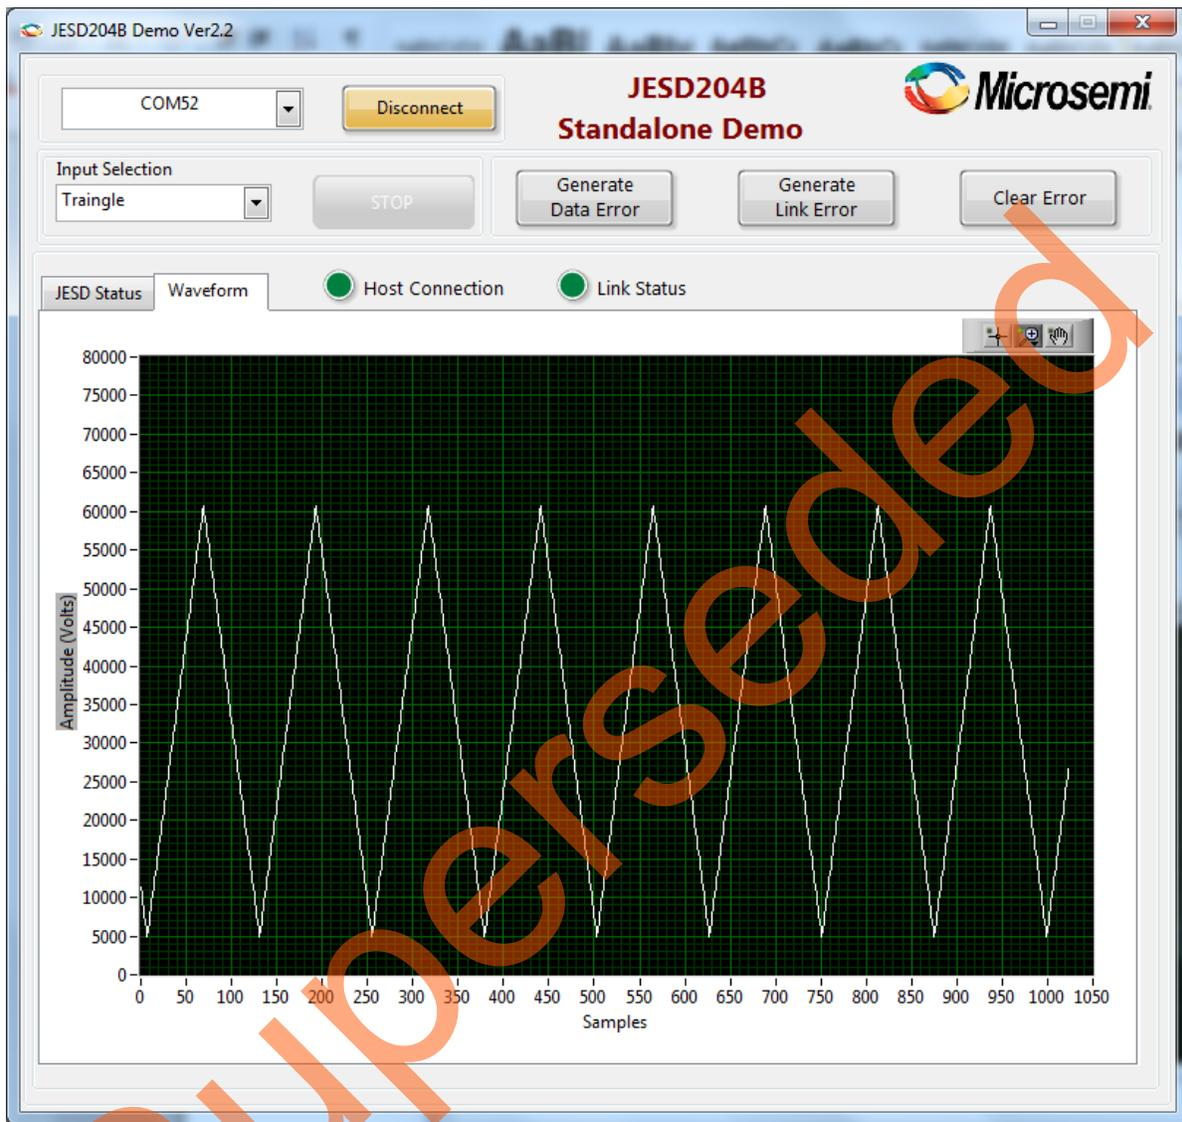

Figure 18 • Waveform Tab
11. Click the **Waveform** tab to view the **Triangle** waveform received from the JESD204BRx IP core, as shown in Figure 18.